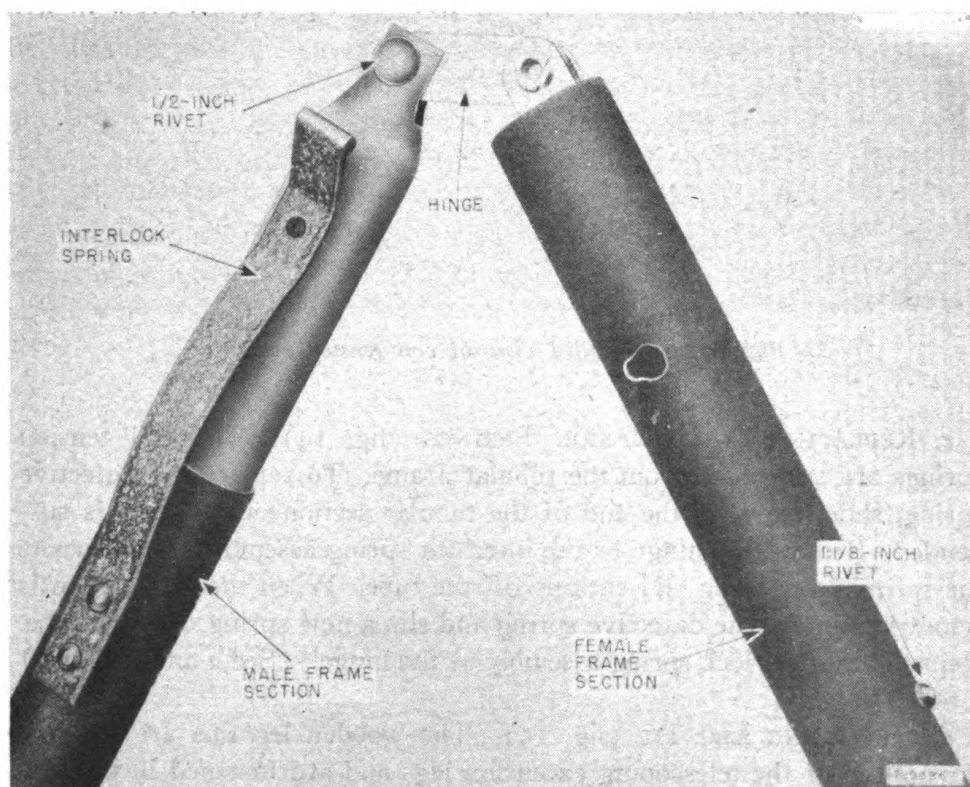

Figure 13. Detailed view of hinge.
b. REPLACING HINGES (fig. 13). The hinges are located between tubular sections of the frame and are used to hold two mating sections together while they are folded for packing. To replace a hinge, proceed as follows:
(1) Cut off or punch out the $1\frac{1}{8}$ -inch rivet that retains the hinge inside the female section of the tubular frame.